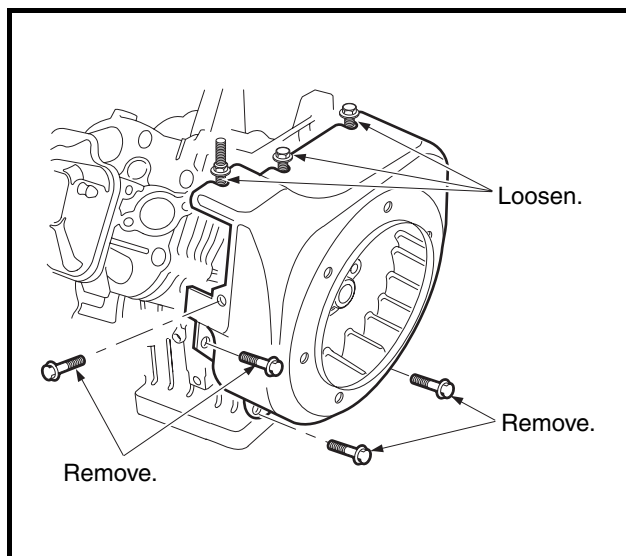

Figure 13-7 Flywheel Housing
1. Loosen three screws and remove the remaining four screws attaching the flywheel housing as shown, then remove the housing (**Figure 13-7, Page 13-7**).